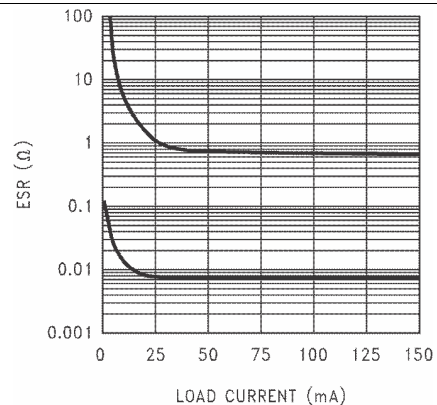

Figure 18. 2.2- μF Stable ESR Range for Output Voltage $\leq 2.3 \text{ V}$
- ESR range: see Figure 18 through Figure 20